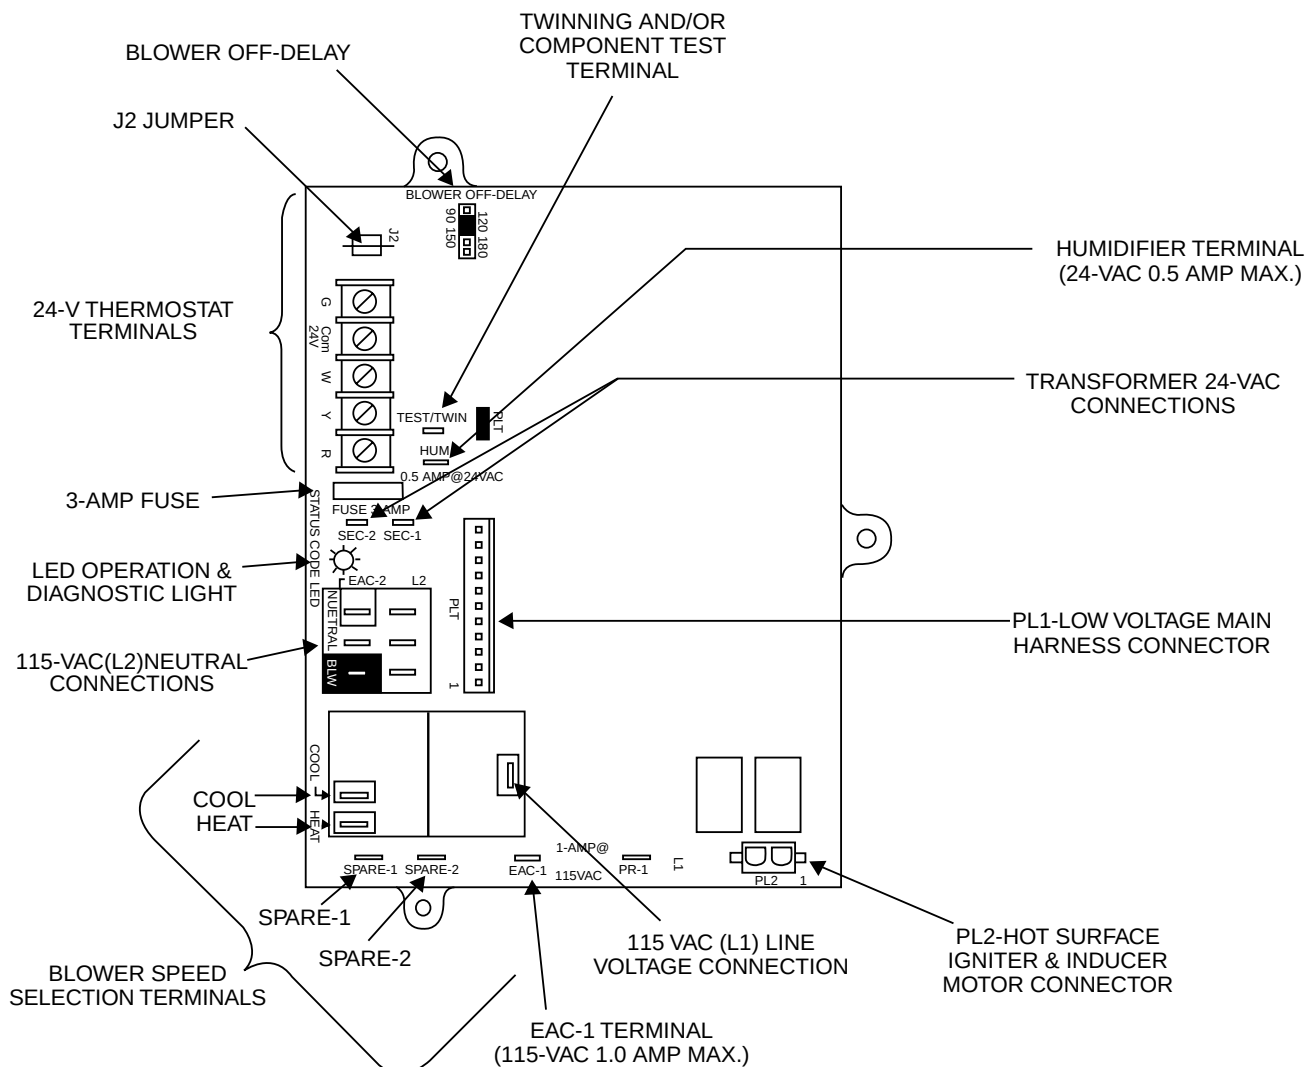

Fig. 12—Control Center
The 24-v circuit contains an automotive-type, 3-amp fuse located on the control. (See Fig. 12.) Any direct shorts of the 24-v wiring during installation, service, or maintenance will cause this fuse to blow. If fuse replacement is required, use **ONLY** a 3-amp fuse of identical size. The control LED will flash status code 24 when fuse needs to be replaced.
4. For approximately 2 sec, short (jumper) the COM-24v terminal on control to the TEST/TWIN 3/16-in. quick-connect terminal on control until LED turns off. Remove jumper from terminals. (See Fig. 12.)